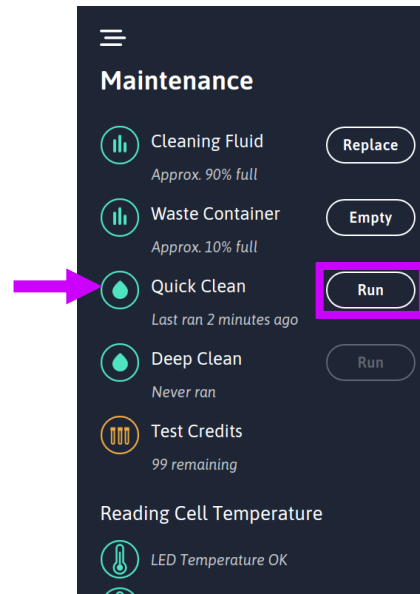

Figure 3
3. Perform three washes by pressing the Run button in the Quick Clean area as highlighted in pink in Figure 3.